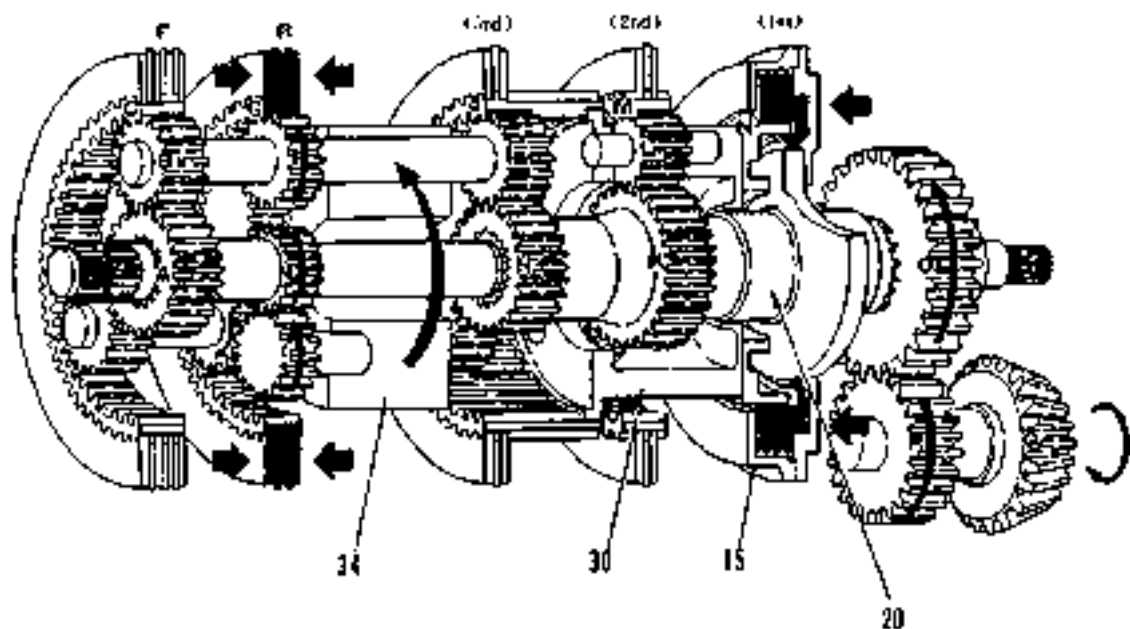

Fig. 2-24 Reverse 1st speed transmitting line
4. Reverse 1st speed transmitting line (See Fig. 2-24)